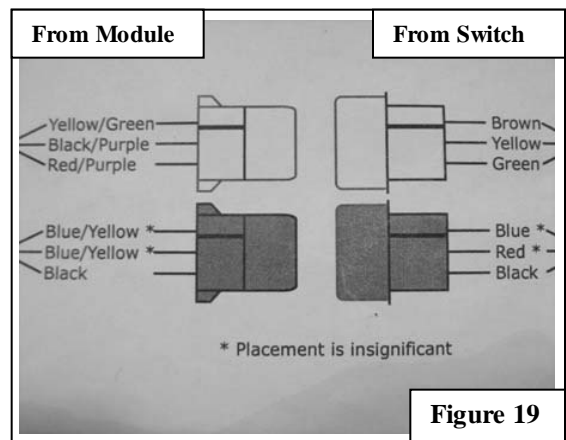

Figure 19
- 3. Assemble (2) 3-pin connectors from the sack parts to the mating wire colors on the **Switch Harness**. Use the diagram to mate the **Main Wiring Harness** to the **Switch Harness**. **Figure 19**